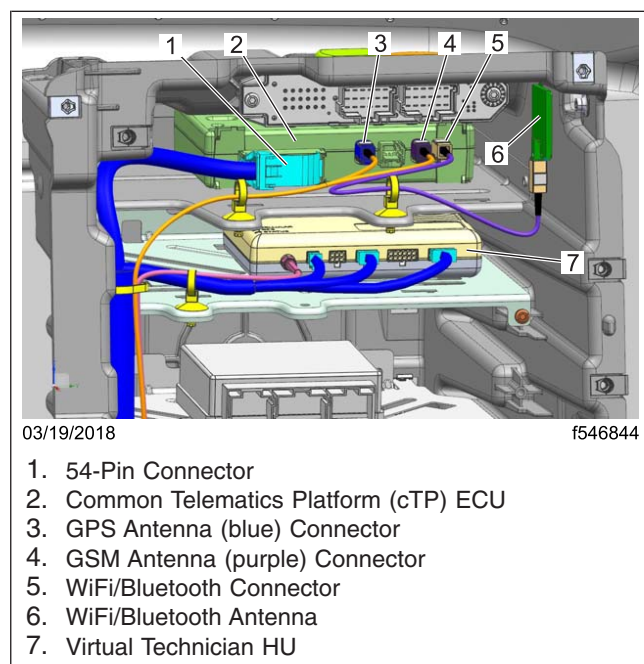

Fig. 2, Virtual Technician and Common Telematics Platform in the Electronics Bay
2. Check to see if the Virtual Technician HU (VTHU) is still installed. See **Fig. 2**. If the VTHU has been removed, verify that the VTHU connector is capped and secured. No further action is necessary. Continue with the next procedure listed for the vehicle.